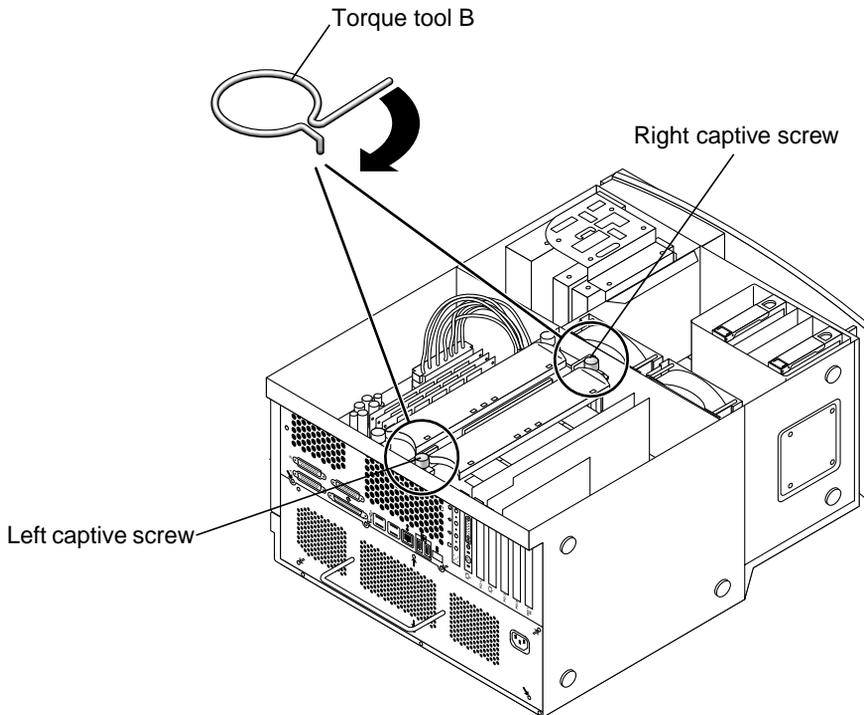

FIGURE 13 Alternately Rotating Left and Right Captive Screws One Turn Clockwise
5. Use torque tool B to rotate the left captive screw one turn clockwise (see FIGURE 13).
6. Use torque tool B to rotate the right captive screw one turn clockwise (see FIGURE 13).